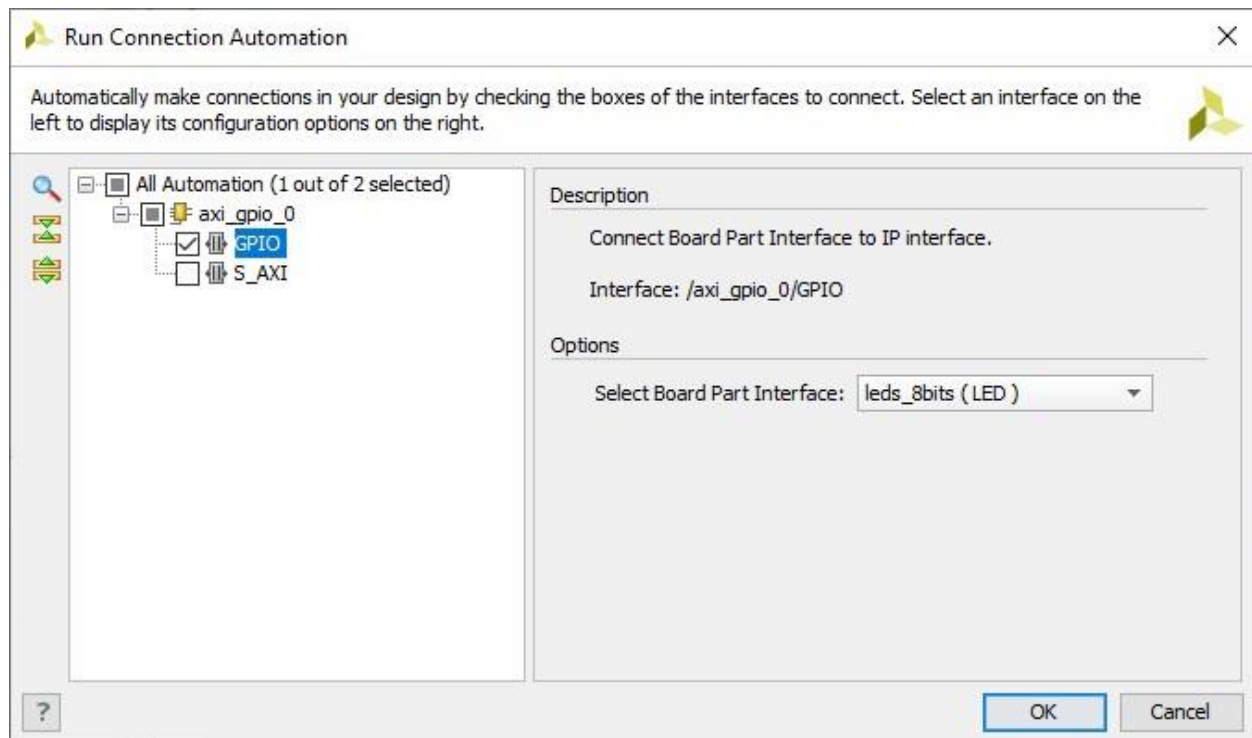

Figure 14: Select Board Interface options.
4. Select **Run Connection Automation** again. Under **axi gpio #**, select the check-box beside **GPIO**. Under **Select Board Interface**, select **leds 8bits**, as in Figure 14.